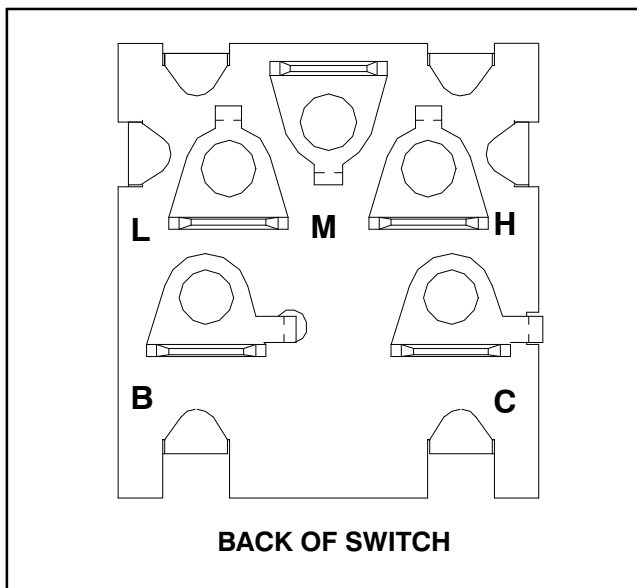

Figure 63
4. The switch terminals are identified in (Fig. 63). With the use of a multimeter (ohms setting), test the switch functions to determine if continuity exists between only the terminals listed for each switch position. Check the continuity between the switch terminals.